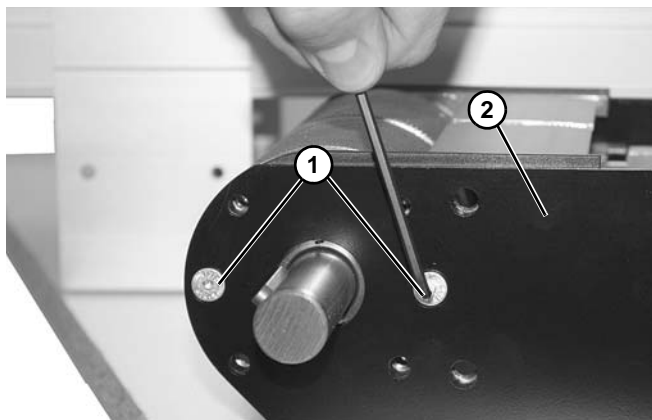

Figure 87
3. With tail assembly on an open work surface, remove the two flat head screws (**Figure 87, item 1**) on the drive shaft side. Remove outer side plate (**Figure 87, item 2**), washer, and plastic spacer.